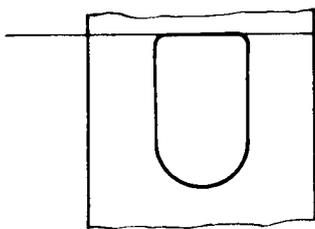
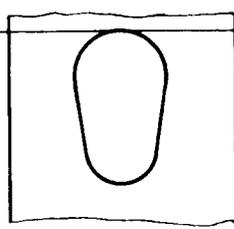
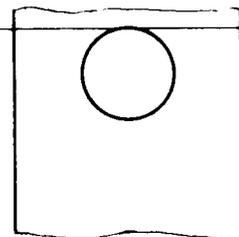

FIG. 2 - U-shaped eye
FIG. 3 - Drop-shaped eye
FIG. 4 - Round eye
- (1) The eye may be U-shaped (Fig. 2), drop-shaped (Fig. 3) or round (Fig. 4). A drop-shaped eye is acceptable with 8 mm (0.315 in) and 11 mm (0.433 in) wide drop wires. The round eye is only acceptable with 11 mm (0.433 in) wide drop wires. The upper edge of the drop-shaped or round eye should correspond with the upper edge of the U-shaped eye. The minimum diameter of the round eye should be 6.35 mm (0.250 in).
- (2) The maximum by which the openings may be off-centre should be 0.125 mm (0.005 in).
- (3) Half of the drop wires in any delivery should have keyways pointing upwards and the other half pointing downwards. If so requested by the purchaser, the drop wires should be supplied with the keyholes alternating.
- (4) The top end of the drop wire may be chamfered at the option of the manufacturer.